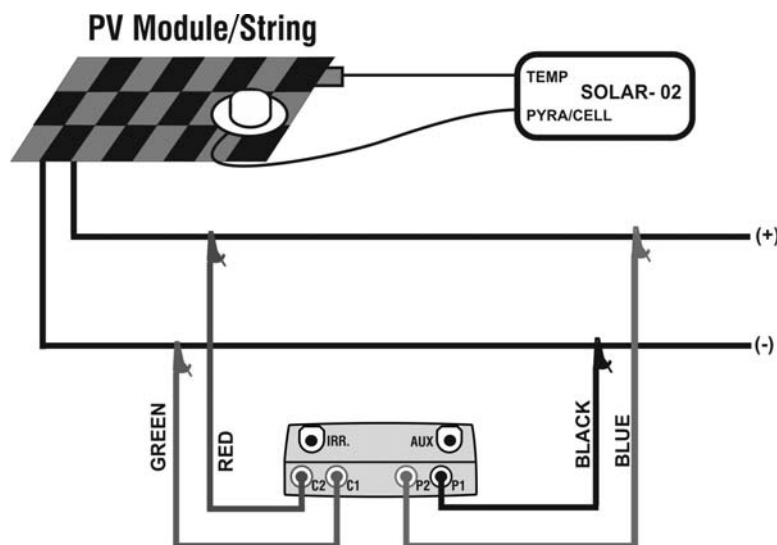

Fig.11: Connection of units to the PV module/string
22. Connect the meter to the module/string under test as shown in Fig.11. In particular, connect the negative output pole of module/string to P1, C2 input terminals and the positive output pole of module/string to P2, C1 input terminals. In **Auto** activation mode is recommended the use of KITKELVIN optional accessory